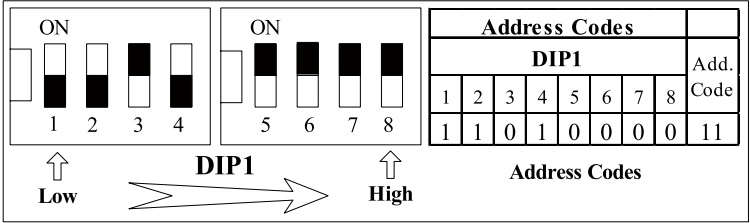

Fig.5 How to Set the Address 11
- ① . See the Fig.5 for how to set the address 11